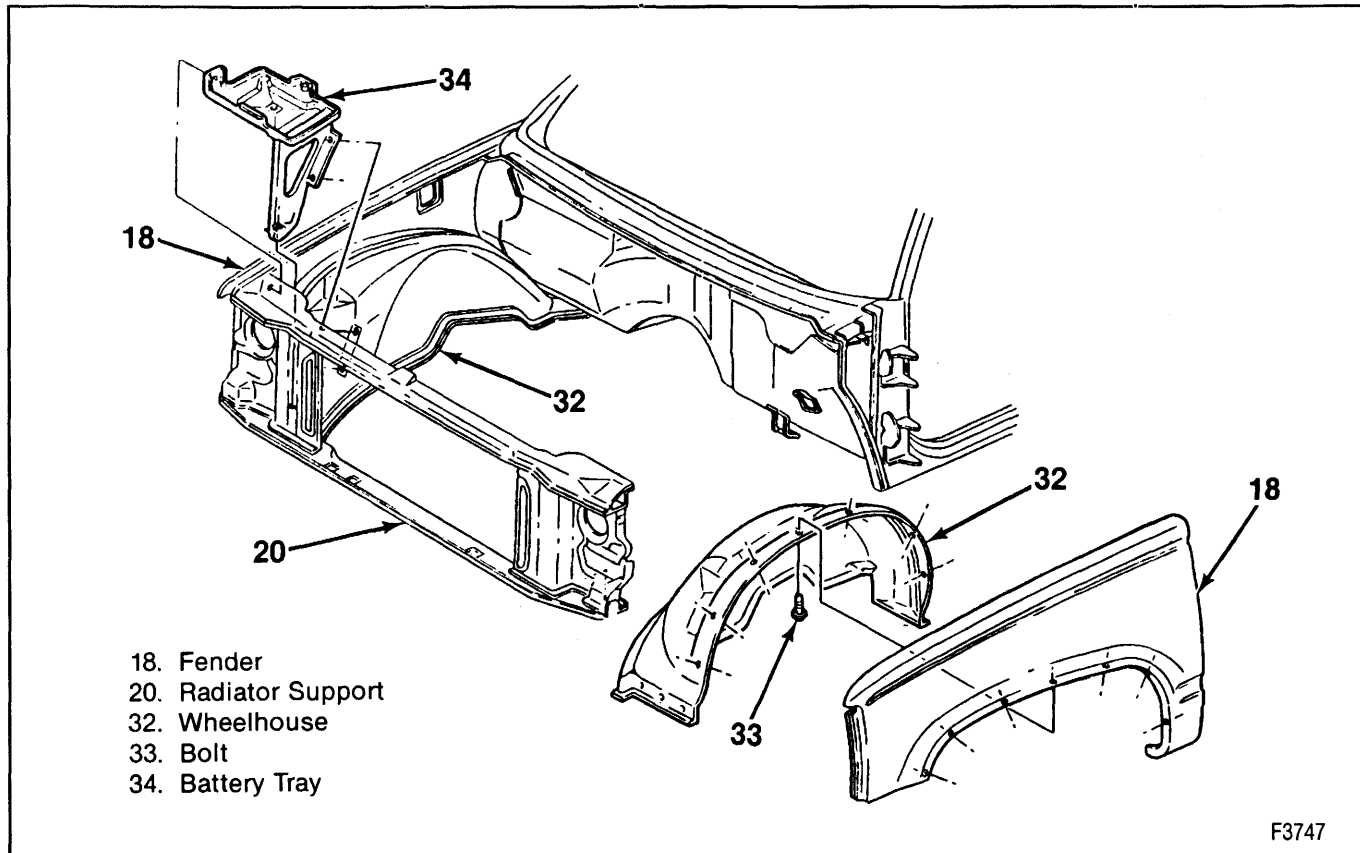

Figure 8—Fender and Wheelhouse Assemblies
↔ Remove or Disconnect (Figures 8, 9, and 10)
13. Bolts holding the fender to the wheelhouse (figure 8).
↔ Install or Connect (Figure 8, 9, and 10)
7. Bolts through the wheelhouse to the fender (figure 8).
10. Bolts holding the fender to the wheelhouse (figure 8).